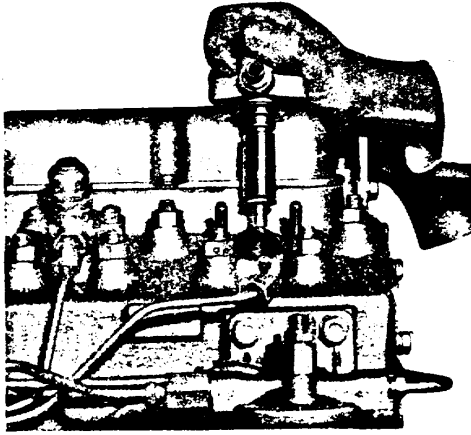

Fig. E.1.
11. Disconnect and remove the high pressure fuel pipes from the fuel injection pump and atomisers. Blank off the exposed ports. Release and remove the nuts securing the atomisers and carefully extract the atomisers from the cylinder head (see Fig. E.1).
16. Release and remove the cylinder head nuts or setscrews in the reverse order of the tightening sequence shown in Fig. E.1).